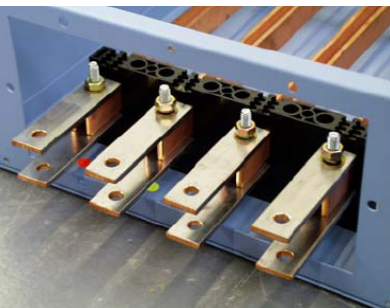

Fig 2
- Position busbar chambers together and secure together using M8 fixing bolts (Fig 2).